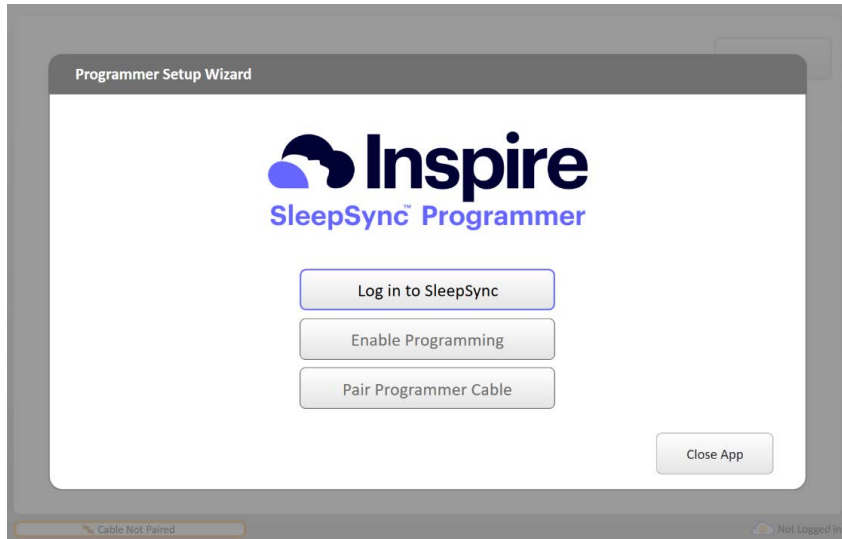

Figure 3-1. Setup Screen
- d. After you launch the application, the Setup Wizard screen displays (Figure 3-1). Select the **Log in to SleepSync** button.